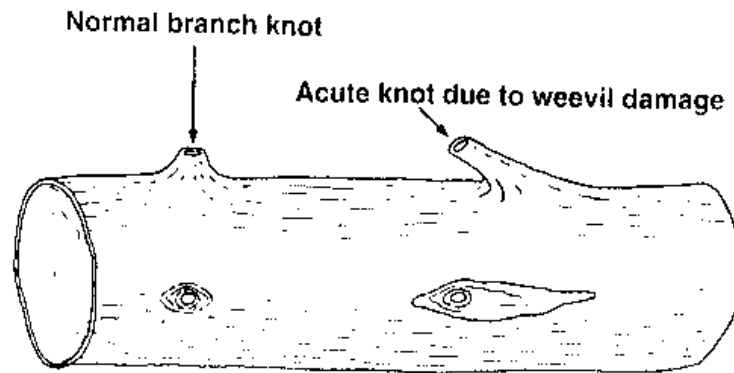

Figure 12 *Acute branch knot in white pine, indicating prior weevil damage.*
- (1) You may obtain an idea of relative volumes and qualities of products, making it easier to mark trees for removal.
- (2) In mixed-wood stands, you may decide which species to favour.
- (3) High-quality trees tend to occur in groups, as do low-quality trees. Therefore, consider not only an individual tree but also its neighbours in the stand.
- (4) Allows you to identify repetition of tree defects. For example, wood borers, and decay fungi, are often found in infected clusters of trees.
- (5) Allows you to identify past logging damage such as wounds at the base of trees. Infection by very aggressive fungi can cause widespread damage in hardwoods.
- (6) Allows you to identify repeated damage or evidence of decay fungi in its late stages. Where certain areas are heavily infected, it may be necessary to amend your cutting plans and to remove such trees early on.
- (7) Allows you to identify damage in white pine by red rot in the stump area, and repeated weevil damage indicated by very acute branching in the stem and crooked stems (see Figure 12). In general, spruces, younger fir, and other softwoods are quite resistant to various fungi and insect damage, such as borers.